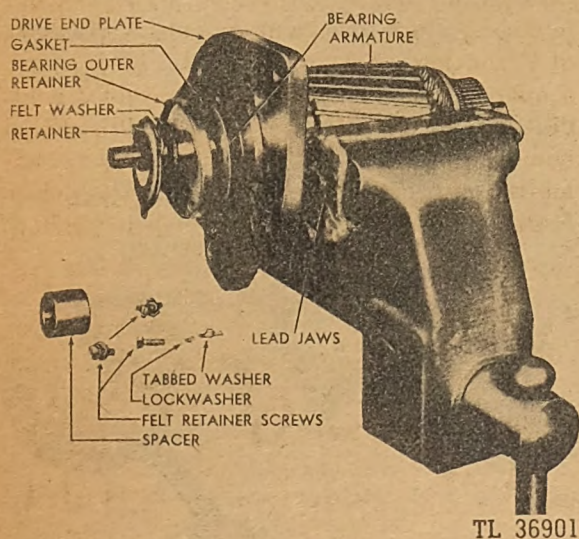

Fig. 249. Drive End Plate, Spacer and Retainers
- (10) Place armature in a bench vise and remove screws, spring and tabbed lockwashers, and spacing collar. Do not remove flat head screws on drive end housing. (See Figure 249.)
- (11) Press armature out of drive end ball bearing.
- (12) Disconnect all internal connections from brush rigging.
- (13) Remove screws, spring and tabbed lockwashers, and take away commutator end housing.